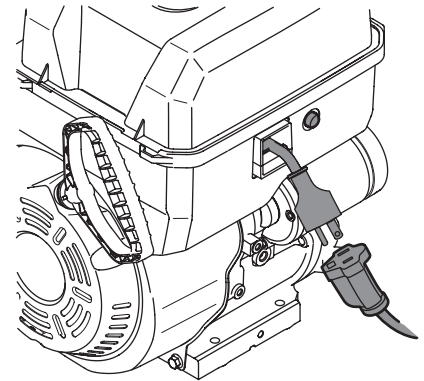

Figure 3-4
**NOTES:** When connecting power cord always connect power cord to switch box on engine first; then into outlet. See "Figure 3-4".